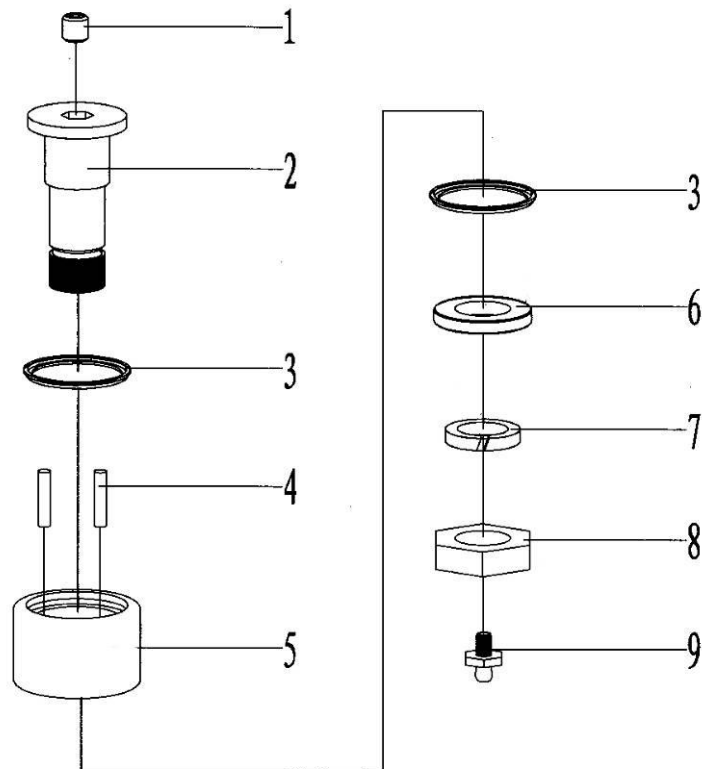

Fig 22
7.22 Centering roller assembly(2) (Fig 22, Table 22)